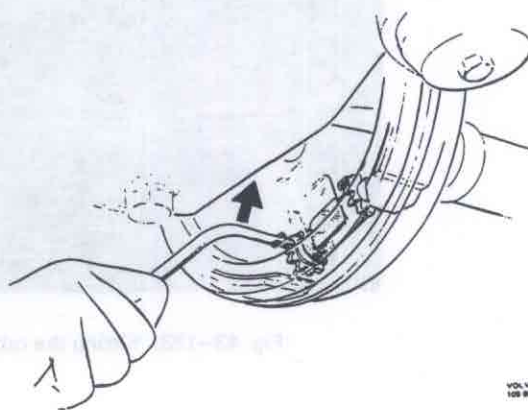

Fig. 43-131. Adjusting brake shoe
10. Adjust out one of the brake shoes with a screwdriver, Fig. 43-131, until it is just possible to rotate the drum. The drum should be fixed with nuts. Slacken the adjuster screw until the drum rotates freely, but max. five teeth. Adjust the other brake shoe in the same way.